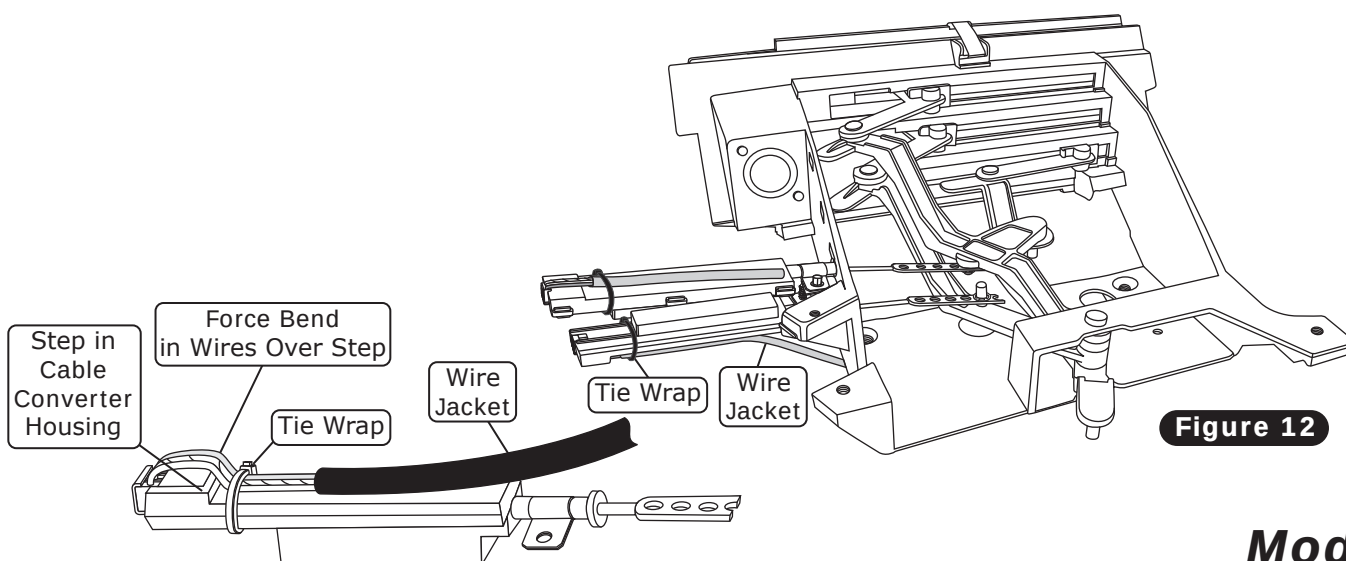

Figure 12
1. Once the connector is correctly plugged into the cable converter assembly, secure the wires to the cable converter assembly using the supplied tie wraps (See Figure 12, below). The tie wrap must be located between the end of the wire jacket and the step in the cable converter housing, forcing a bend in each wire as it passes over the step in the cable converter housing. The head of the tie wrap must fall on the edge of the housing to remain tight. Ensure that the tie wraps are tight enough that the wires cannot move (See Figure 12, below).